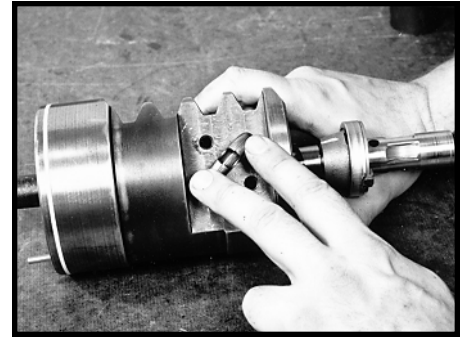

Figure 106
6. Assemble the ball return guide halves (43) into the rack piston (31) Make sure they are correctly seated. SEE FIGURE 106.